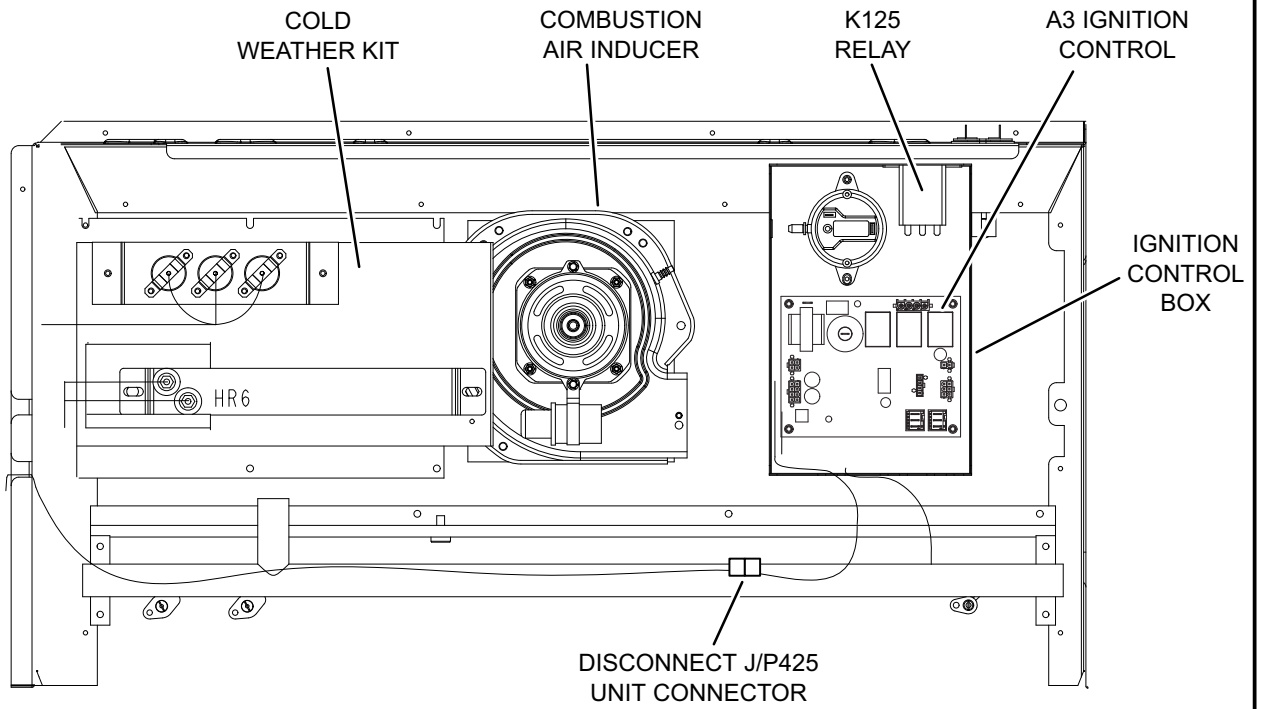
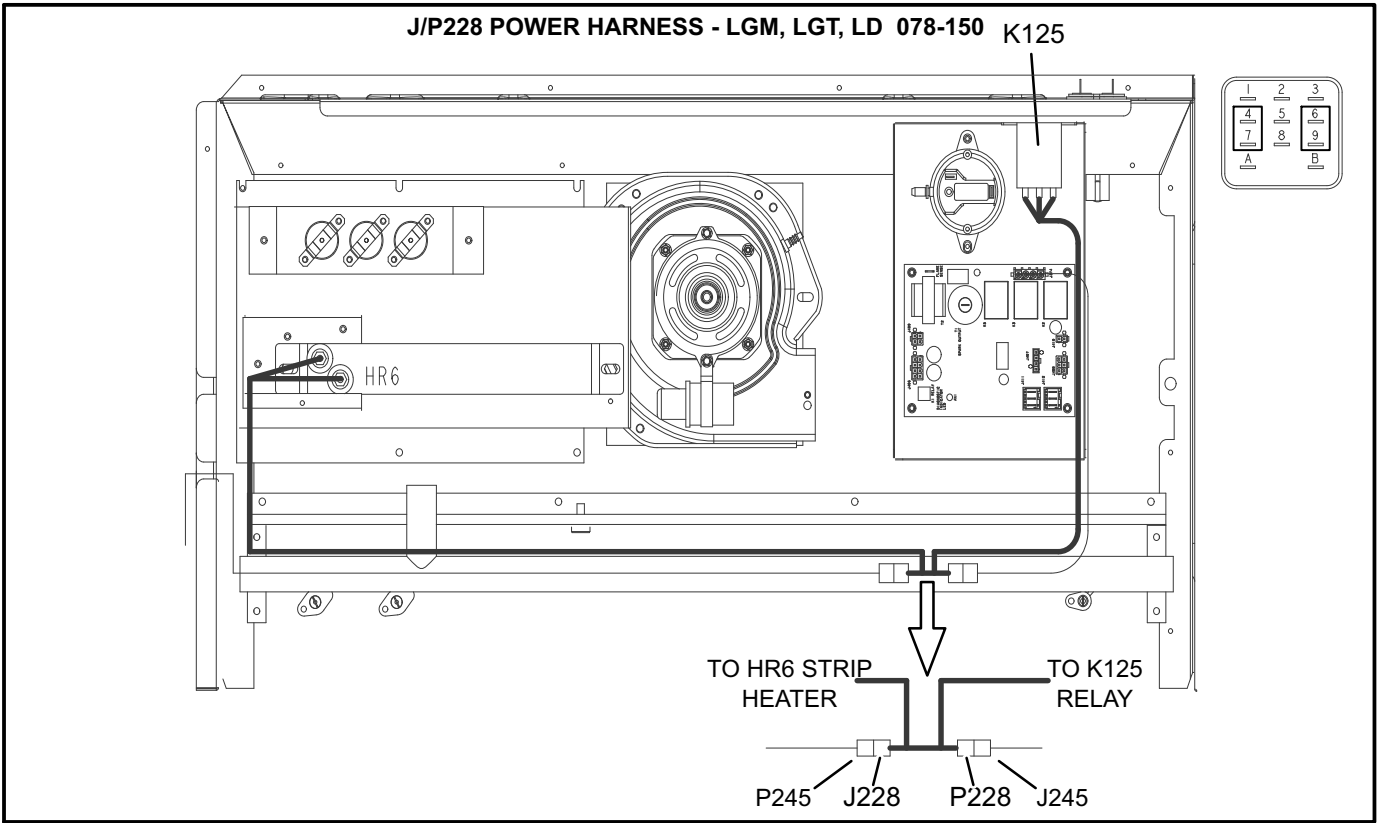

FIGURE 10
FIGURE 11
4. Install heater assembly in heat section as shown in figure 10. Use existing screws.
5. Remove ignition control cover and install K125 as shown in figure 10. Secure with #8 screws provided in kit.
6. Disconnect unit J/P425 connectors. See figure 10. Connect power harness J/P228 to J/P425. See figure 11.